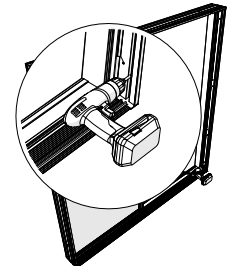

Figure 18: Drill in sides behind strike plate in aluminum groove
16. Check diagonal measurements of the frame. Tolerance ± 1 mm – this is critical for the door to slide and close properly. Side frames are fastened every 900 mm and shimmed behind the fastening points (figure 18).